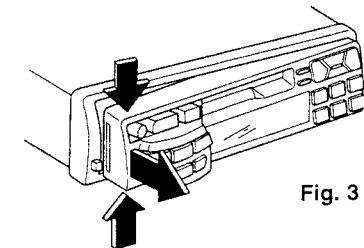

Fig. 3
3. The detachable front panel pops out. Grasp part of it and pull it off. (Fig. 3)